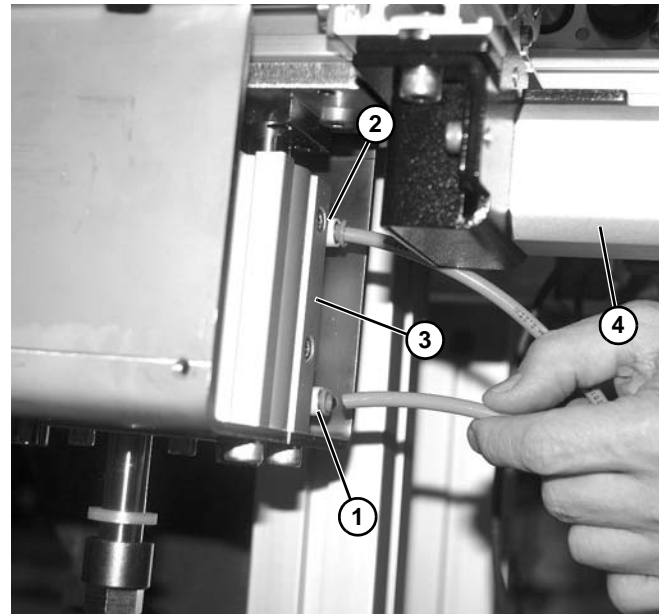

Figure 107
4. Disconnect upper (Figure 107, item 1) and lower (Figure 107, item 2) hoses from fittings on lift cylinder (Figure 107, item 3).
5. Disconnect motor (Figure 107, item 4) from power source.